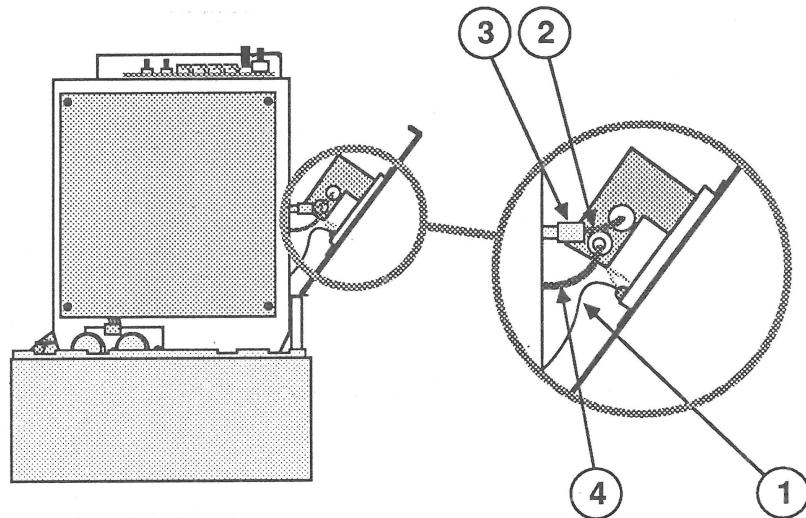

FIGURE 33
2. Prop up the bottom metal screen against the bottom of the metal chassis frame, as shown in Figure 33.
3. Reconnect the gray wire (Figure 33, #1) to its red, four-wire connector at D-6 on main logic board "D." (The connector is located on the lower front edge of the logic board near the CRT. If you need help locating it, refer to the main logic board "D" layout in Figure 15.)
4. Insert the rubberized wire from the flyback (Figure 33, #2) in the right-hand opening in the plastic housing of the high-voltage capacitor. Push it in firmly and turn it one-quarter turn clockwise. Tug on the wire to make sure it is firmly seated. Replace the wire's rubber boot (Figure 33, #3) around the opening of the plastic capacitor housing.
6. Route the anode wire (Figure 33, #4) up to the top of the CRT, fitting it through the space between the EMI shield and the CRT.